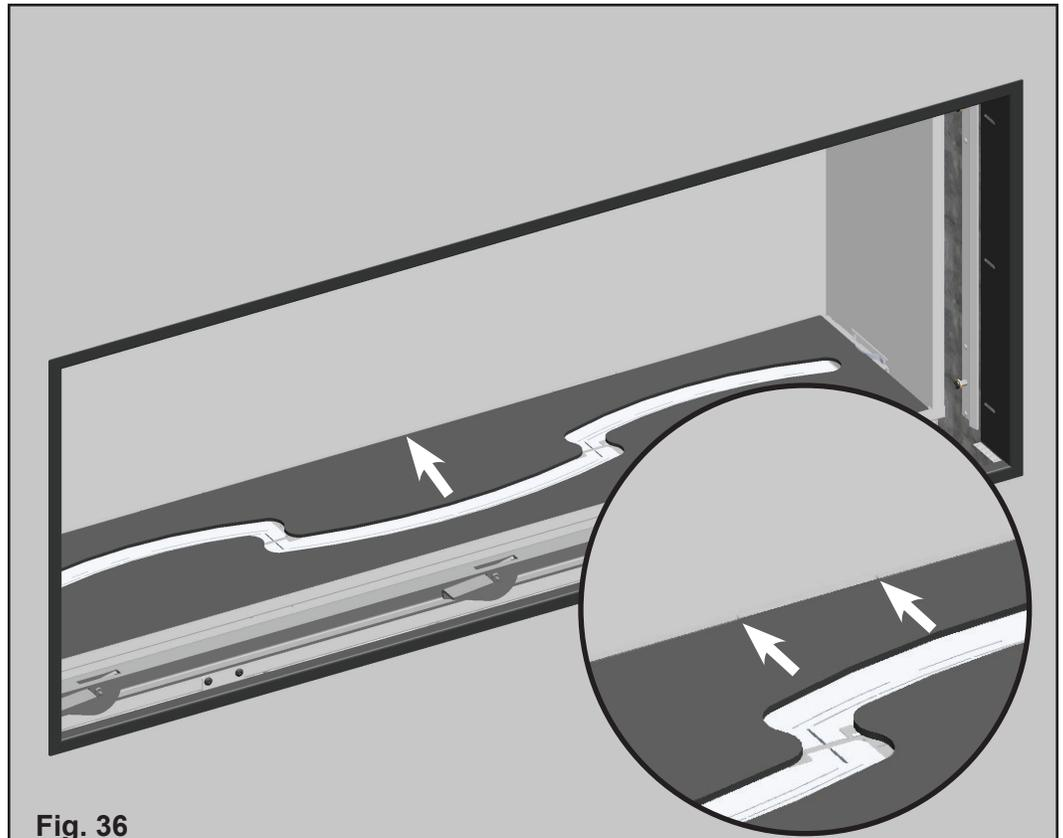

Fig. 36
4. Push the floor glass against the stops on the two rear floor glass support brackets. (Fig. 36)